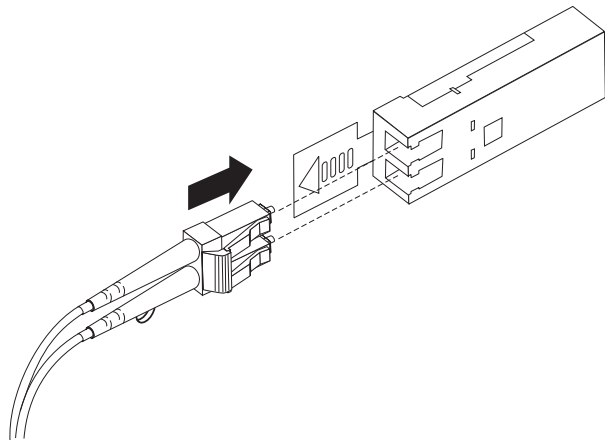

Figure 30. Inserting an LC-LC fibre-channel cable into an SFP module
4. Carefully insert this end of the LC-LC cable into an SFP module that is installed in the EXP420. The cable connector is keyed to ensure it is inserted into the SFP module correctly. Holding the connector, push in the cable until it clicks into place, as shown in Figure 30.